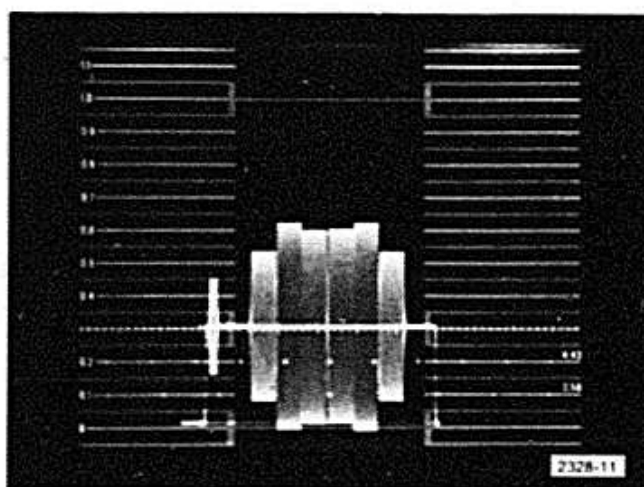

Fig. 4-4. Chrominance Bandpass Filter spectrum analyzer display.
f. OPTIONAL CHECK—using a spectrum analyzer, check that the third (and higher) harmonics are 30 dB or greater down from the chrominance subcarrier fundamental, as illustrated in Fig. 4-4.